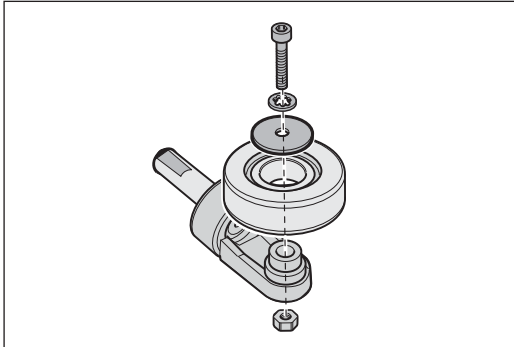

Fig. 55 Remove the screw with the washers and nut in the centre of the wheel and take off the rear wheel. Assemble in reverse sequence.
- 6** Release the screw in the centre of the wheel and remove the screw, washers and nut (Fig. 55). Ensure that you do not lose the nut.